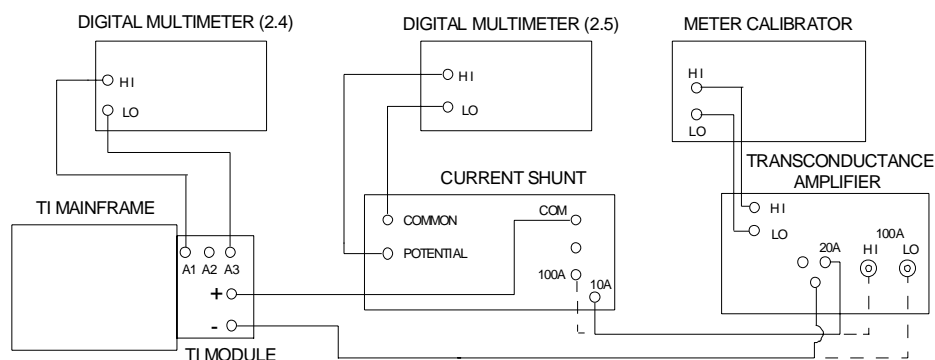

Figure 3. *
4.2.1.1 Connect equipment as shown in Figure 3.
4.2.2.1 Connect equipment as shown in Figure 3.
4.2.3.1 Connect equipment as shown in Figure 3.
- 4.2.4.1 Connect equipment as shown in Figure 3.